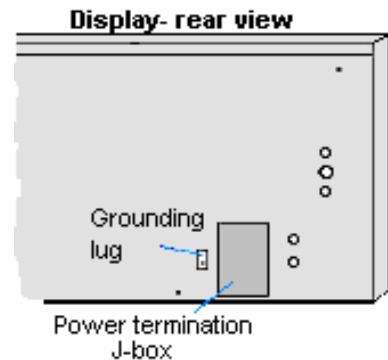

Figure 7: J-box Location
1. Route the power cable through 3/4" conduit to the rear of the display and into the power termination enclosure (**Figure 7**).